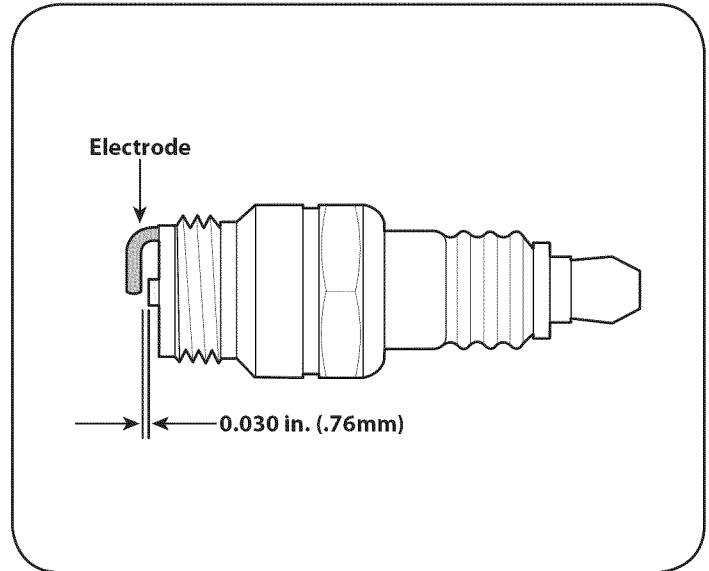

Figure 12
3. Check the gap with a wire gauge. See Figure 12. Spark plug gap should be 0.030 in (0.76 mm). If necessary, reset the gap.